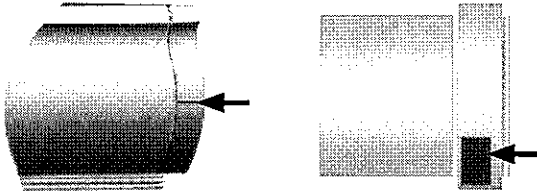

Fig. 1
1. Press and hold the program button on the headrail/motor end, the LED will flash green then amber. When the shade jogs once, release the button and the LED will turn solid amber and turn off. The motor is now ready to be associated to a new remote. (Fig. 1)